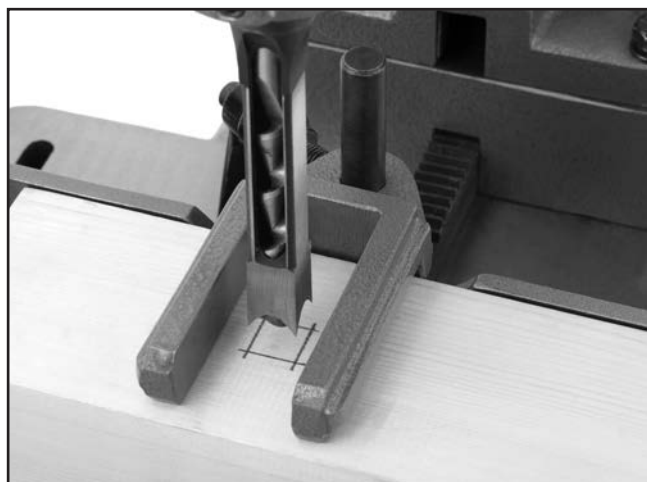

Figure 17. Example of aligning chisel with mortise outline.
Mortises can be cut at varying lengths depending upon the size of tenon/joint being used. We recommend staggering mortise cuts to maximize material removed with each pass (see **Figure 17** for example), and to ensure chisel does not bend/tilt during operation.
5. Adjust fence so chisel is aligned with outline of mortise (see **Figure 17**).